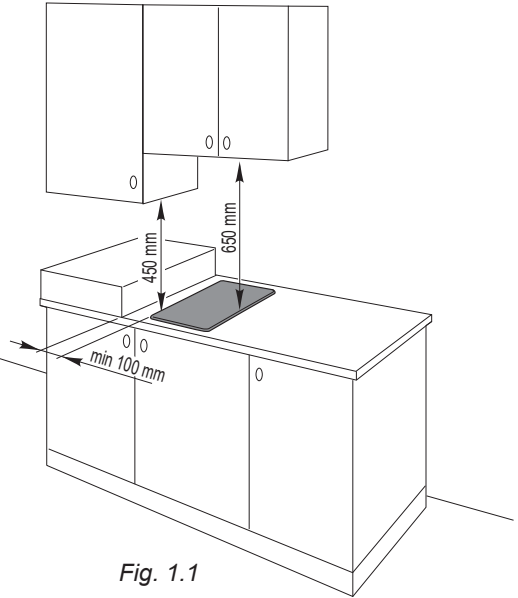

Fig. 1.1
In order to install the cooker top into the kitchen fixture, a hole with the dimensions shown in fig. 1.1 has to be made, bearing in mind the following:
- The cooker top must be kept no less than 100 mm away from any side wall (from side edge of cutout - fig. 1.1).
- There must be a distance of at least 650 mm between the hob and any wall cupboard or extractor hood positioned immediately above (see fig. 1.1).